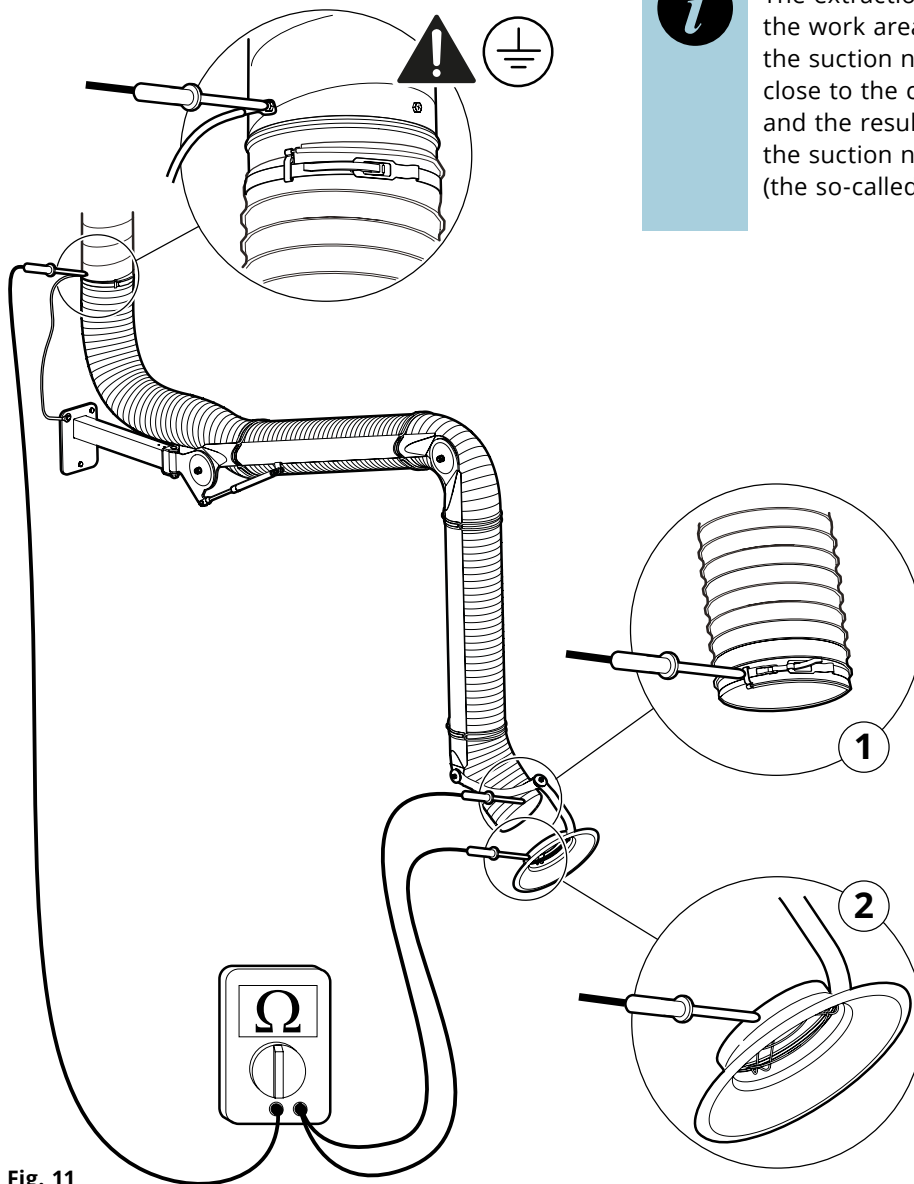

Fig. 11
3. Check the resistance of the extraction arm with a calibrated ohmmeter. See 1, **Fig. 11**. The resistance between the measuring points must be less than 1 MΩ.
4. Check the earth resistance with a calibrated ohmmeter. See 2, **Fig. 11**. The resistance between the measuring points (earth plane/product) must be less than 1 MΩ.